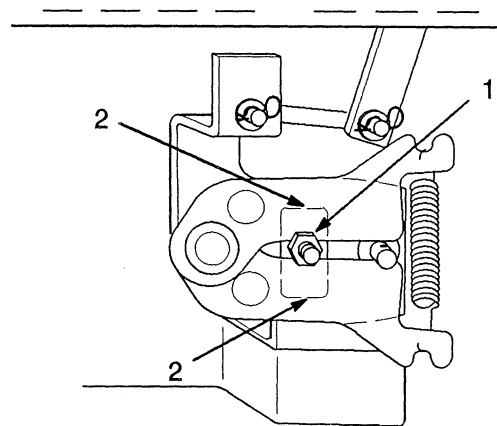

Figure 8
3. Loosen locknut securing adjustment (Fig. 8).
4. Move adjustment stud up or down until creep is minimized (Fig. 8). There may still be some wheel rotation with wheels off the ground.
5. Tighten the locknut (Fig. 8). Move the traction control pedal forward and reverse and allow it to center. Verify that there is still no creep with the wheels on the ground.
After adjusting the hydro neutral position it is necessary to check the traction control pedal travel. While pressing the control pedal full forward and full reverse it must not contact the footrest pad before hitting the stop(s) at the transaxle (Fig. 8).